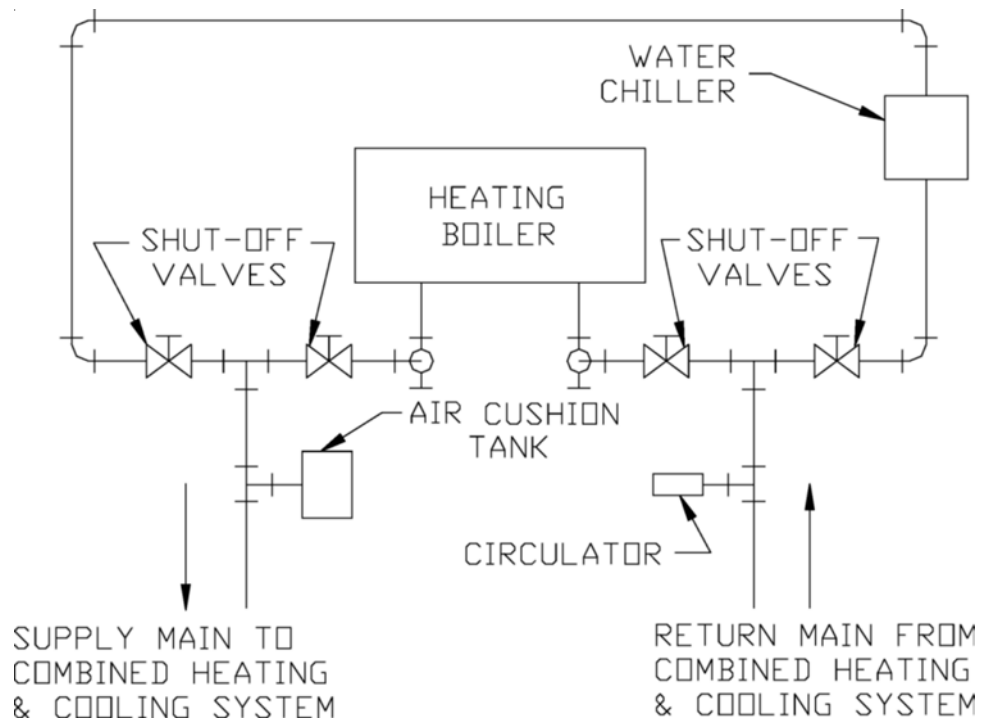

Figure 19: Recommended Piping for Combination Heating & Cooling (Refrigeration) System
- c. Piping with a Chiller - If the boiler is used in conjunction with a chiller, pipe the boiler and chiller in parallel as shown in Figure 19. Use isolation valves to prevent chilled water from entering the boiler.